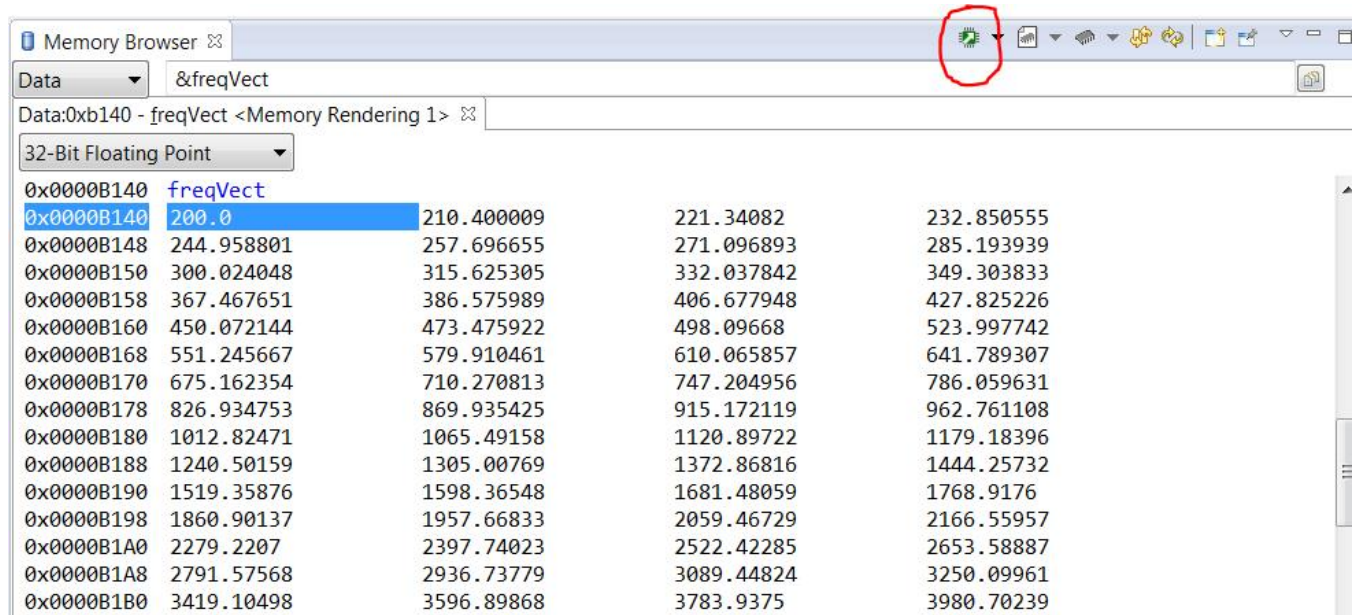

Figure 23. Memory Browser View of Stored SFRA Vectors
12. Click on save memory, shown encircled in Figure 23.